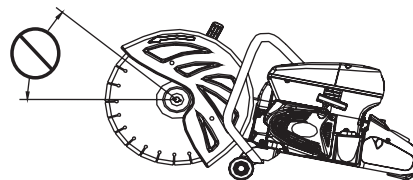

Figure 7
7. To avoid kickback, never cut with the upper section of the blade - See Figure 7.
- a. Before starting the engine attach a garden hose to the Quick Connect Hose Fitting (50).